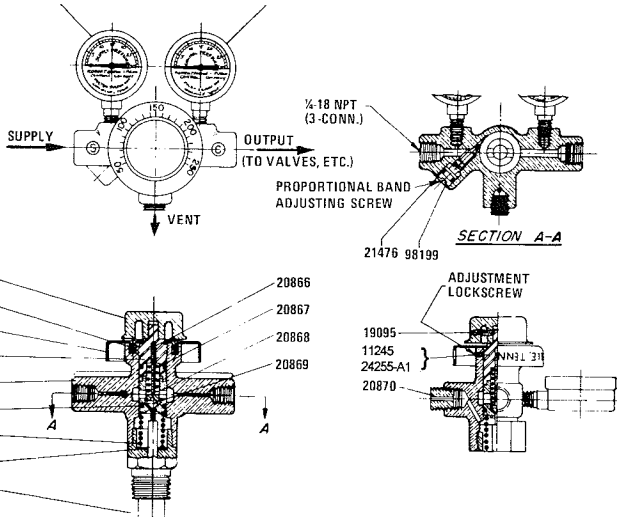

Figure 5
Factory setting of proportional band gives 3 to 15 psi output pressure change on approximately 10° F. temperature change on the "bulb" (at 20 psi constant supply pressure). To decrease (shorten) the proportional band, turn Proportional Band Adjustment Screw (see Figure 5) in clockwise direction. To increase (widen) proportional band, turn adjustment in counterclockwise direction. The setting for a 5° proportional band is found by turning the Proportional Band Adjustment Screw 1/2 turn counterclockwise from the "closed" or "stop" position. This is only an approximation and may require turning the adjusting screw clockwise or counterclockwise in small increments until the 5° proportional band is obtained. Approximately one additional counterclockwise turn gives the full 5 to 25° adjustment of proportional band.
Tighten adjustment lock screw (Figure 5) with Allen wrench provided. Insert Allen wrench through hole in lower side of dial plate.
- (g) If proportional band is more than 10° F. \pm 1°, turn proportional band adjusting screw (see Figure 5) clockwise. This reduces differential.
4. If “output” gage reads 0 or low pressure at all times, shut off supply pressure, remove Proportional Band Adjustment Screw (Figure 5), and wipe it off. Turn on supply pressure to blow out accumulated dirt, etc. and replace adjustment screw. If considerable dirt, oil, etc. is found, the FulTrol pilot should be disassembled (as described in Paragraph 8), cleaned out thoroughly and reassembled carefully.